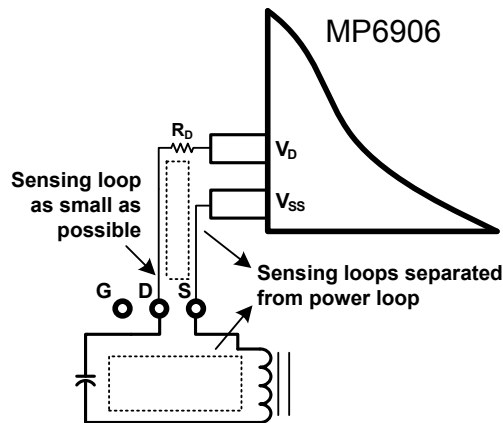
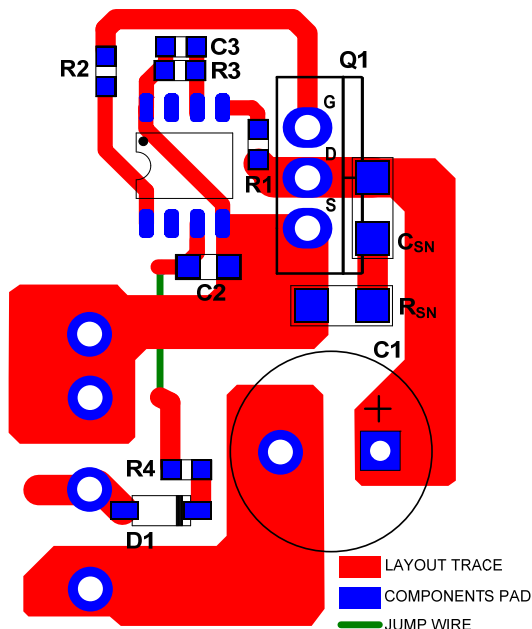
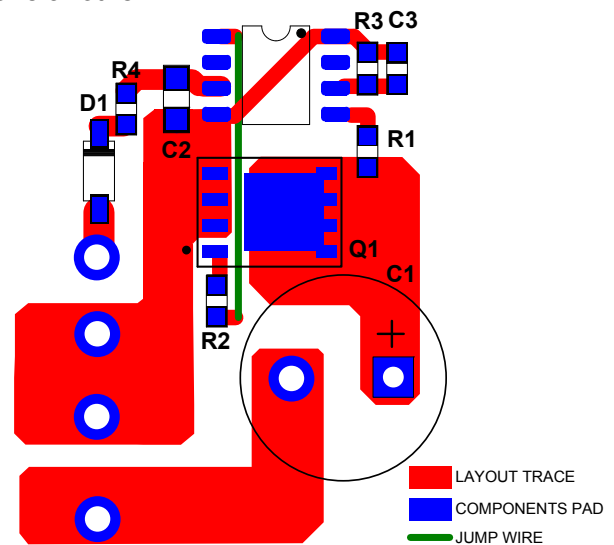

Figure 17: Voltage Sensing for  $V_D/V_{SS}$  on MP690
Figure 18: Layout Example with TO220 package SR FET
Figure 19: Layout Example with PowerPAK/SO8 Package SR FET
Efficient PCB layout is critical for optimal operation. For best results, refer to Figure 17, Figure 18, and Figure 19 and follow the guidelines below:
- 3.) Keep the IC out of the power loop to make sure the sensing loop and power loop do not interrupt each other (see Figure 17).
Figure 18 shows a layout example of a single layer with a through-hole transformer and a TO220 package SR FET.  $R_{SN}$  and  $C_{SN}$  are the RC snubber network for the SR FET.
Figure 19 shows another layout example of a single layer with a PowerPAK/SO8 package SR FET, which also has a minimized sensing loop and power loop to avoid the loops interfering with one another.